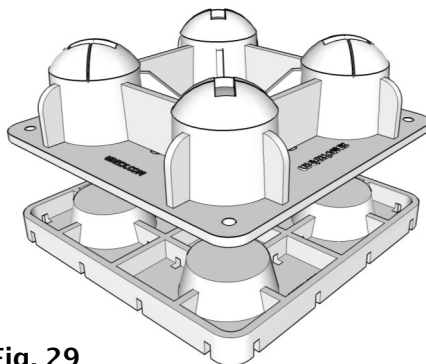
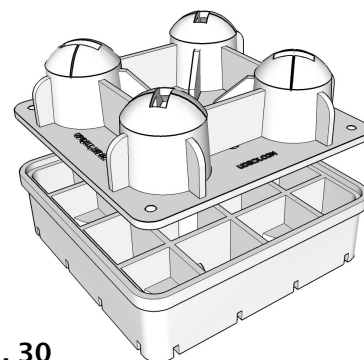

Fig. 29
Fig. 30
13. If you choose to install on a sloped or uneven grade, 1" Shims (G) (Fig. 29) or 3" Risers (H) (Fig. 30) can be used to elevate portions of your Patio Deck to help level the finished surface. Simply place a shim below the Pier (A), level and begin